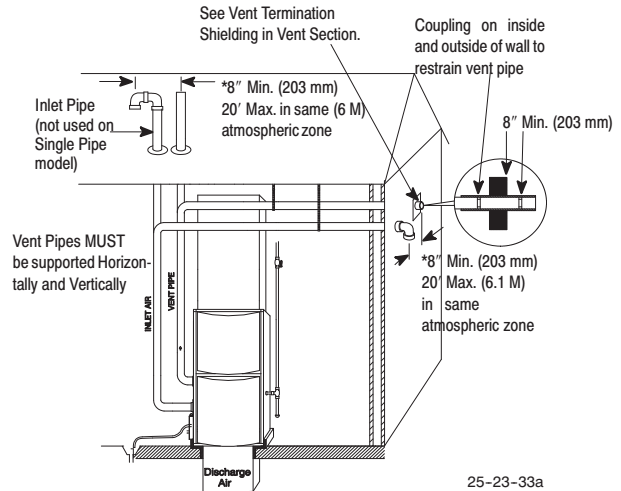

Fig. 2 - Typical Downflow Installation
2. If furnace is a replacement, it is usually best to install the furnace where the old one was. Choose the location or evaluate the existing location based upon the minimum clearance and furnace dimensions (Fig. 2).